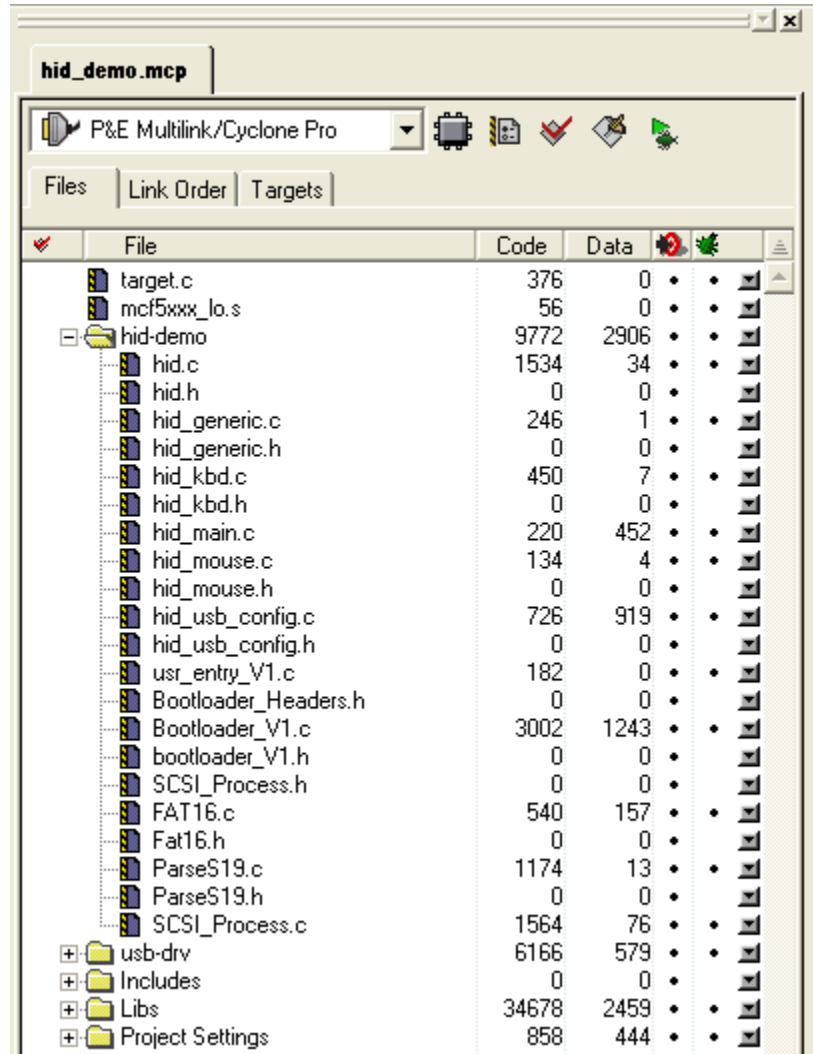

Figure 17. ColdFire V1 CMX Example project window files
- The bootloader files are now visible in the CodeWarrior Project window as shown in Figure 17: